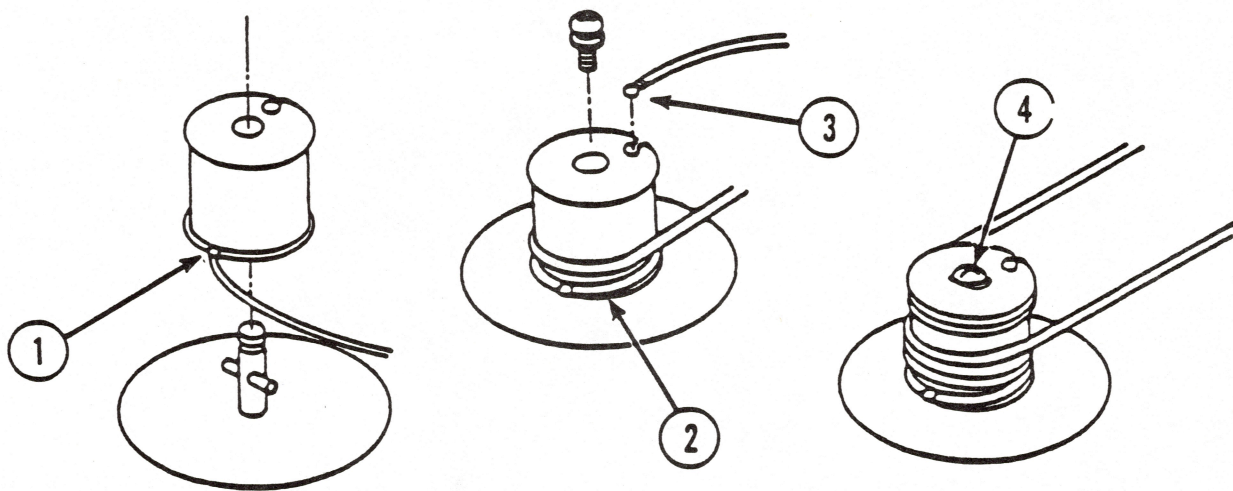

FIGURE 11
6. Insert the long end of the wire into the bottom slot on the motor pulley (see Figure 11, #1).
8. Seat the motor pulley on the shaft (see Figure 11, #2).
Insert the short end of the wire into the top slot of the motor pulley (see Figure 11, #3).
12. Replace the motor pulley screw (see Figure 11, #4).